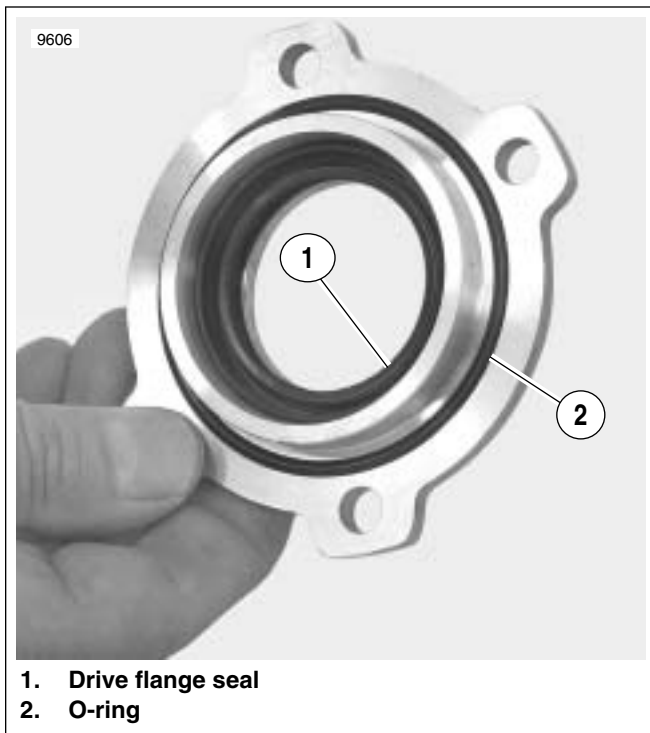

Figure 7-10. Seal Retainer
6. See Figure 7-10. Replace flange seal and O-ring. Lubricate the flange seal with Harley-Davidson Motorcycle Oil 20W50.